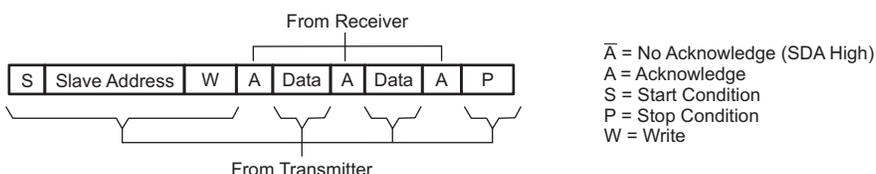
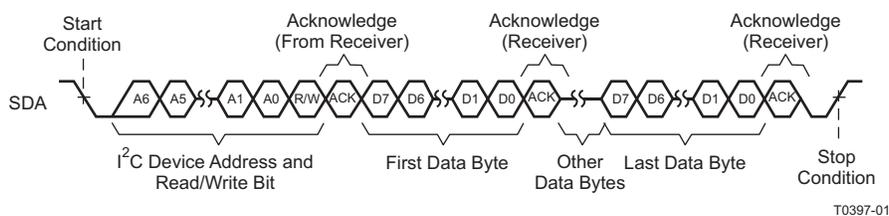
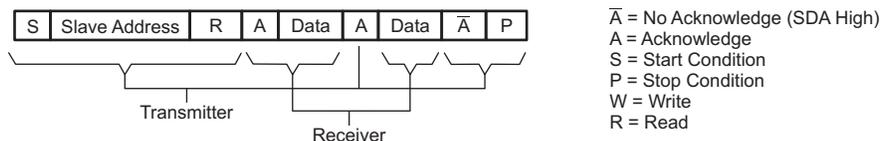
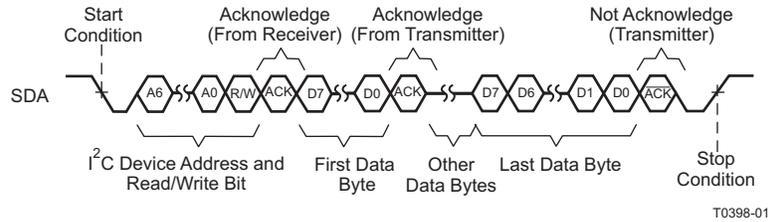

Figure 54. I²C Write Cycle
Figure 55. Multiple-Byte Write Transfer
Figure 56. I²C Read Cycle
Figure 57. Multiple-Byte Read Transfer
- The master generates further SCL cycles to either *transmit* data to the slave (R/W bit 0) or *receive* data from the slave (R/W bit 1). In either case, the *receiver* must acknowledge the data sent by the *transmitter*. So an acknowledge signal can be generated either by the master or by the slave, depending on which one is the receiver. The 9-bit valid data sequences consisting of 8-bit data and 1-bit acknowledge can continue as long as necessary (See Figure 54 through Figure 57).
During a write cycle, the transmitting device must not drive the SDA signal line during the acknowledge cycle so that the receiving device may drive the SDA signal low. After each byte transfer following the address byte, the receiving device pulls the SDA line low for one SCL clock cycle. A stop condition is initiated by the transmitting device after the last byte is transferred. An example of a write cycle can be found in Figure 54 and Figure 55. Note that the TMDS261B allows multiple write transfers to occur. See the *Example – Writing to the TMDS261* section for more information.
During a read cycle, the slave receiver acknowledges the initial address byte if it decodes the address as its address. Following this initial acknowledge by the slave, the master device becomes a receiver and acknowledges data bytes sent by the slave. When the master has received all of the requested data bytes from the slave, the not-acknowledge (\bar{A}) condition is initiated by the master by keeping the SDA signal high just before it asserts the stop (P) condition. This sequence terminates a read cycle as shown in Figure 56 and Figure 57. See the *Example – Reading from the TMDS261* section for more information.